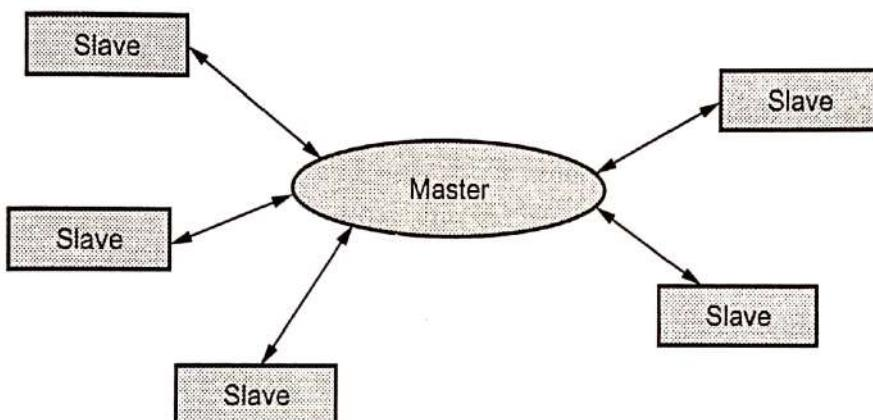

Fig. 3.2.4 : Connections
2. **Connections** : Connection is permanent and it send periodically data between two devices. It uses master-slave configuration. (See Fig. 3.2.4 on next page.)